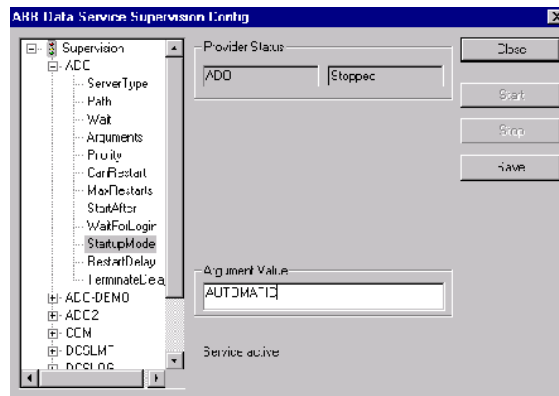

Figure 54. Changing StartupMode to Automatic
- Set the Argument Value field to **AUTOMATIC**, as shown in Figure 54.